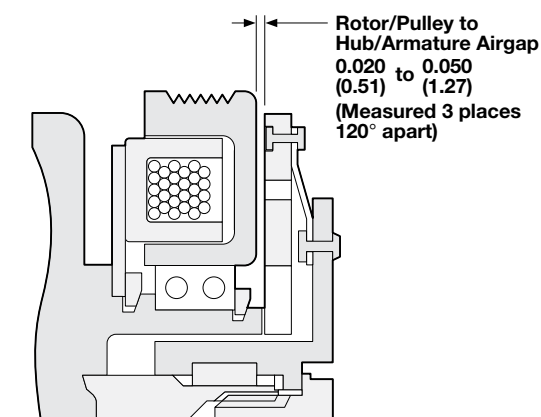

Figure 7
Step 4: Installing the Hub/Armature Assembly (9)
- A. Align the hub keyway with shaft key (7) and slide the hub/armature (9) onto the compressor shaft.
- B. Set the rotor/pulley to hub/armature air gap at 0.020 to 0.050 inches by adding or removing shims (8). Measure using a feeler gauge at 3 locations 120° apart. (See Figure 7)
- C. Install the lockwasher (10) and shaft nut (11). Torque to 155 lb.in. using a torque wrench and spanner wrench.
- Reset air gap (See Figure 7)
- Reset air gap (see Figure 7)